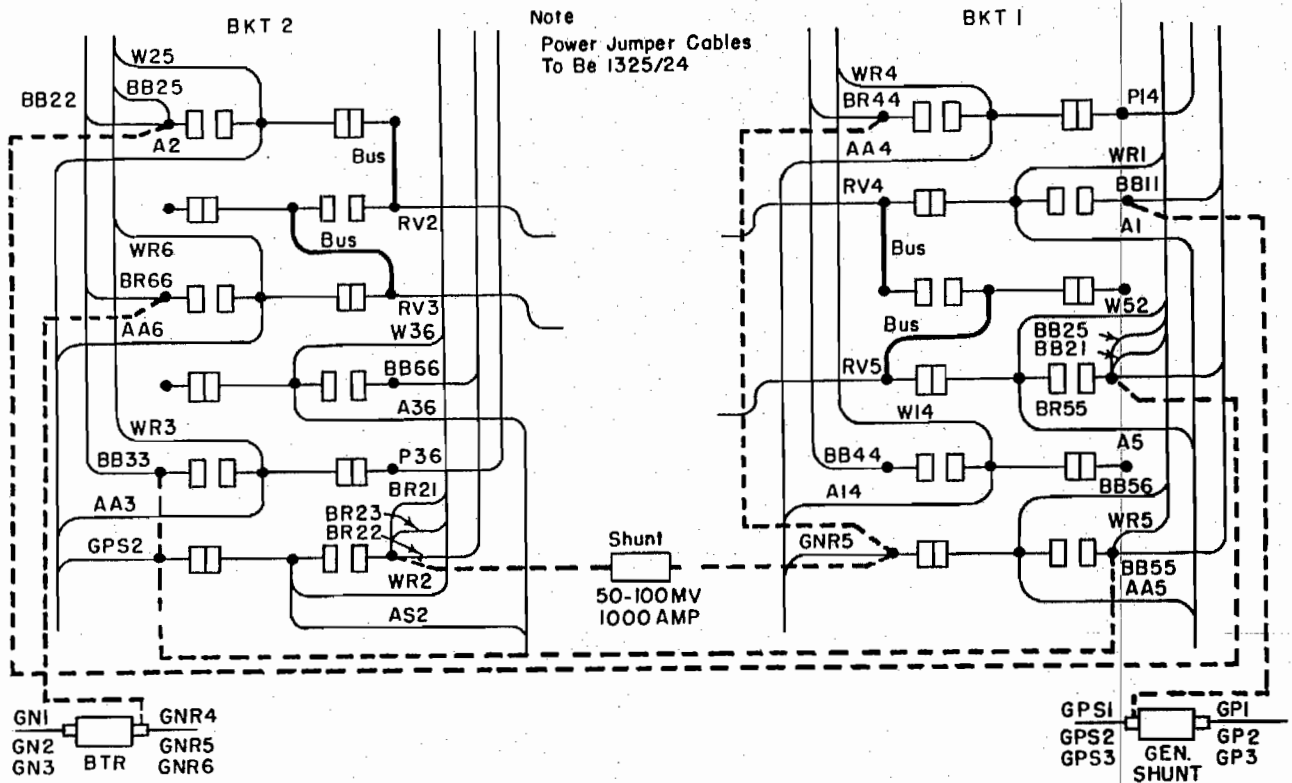

Fig. 10 - Brake Transfer Switch Connections (SD9)
- a. Use bus bars or cable having 500,000 circular mils (1325/24 equivalent) for jumpers. Connect as follows: (See Fig. 10.)